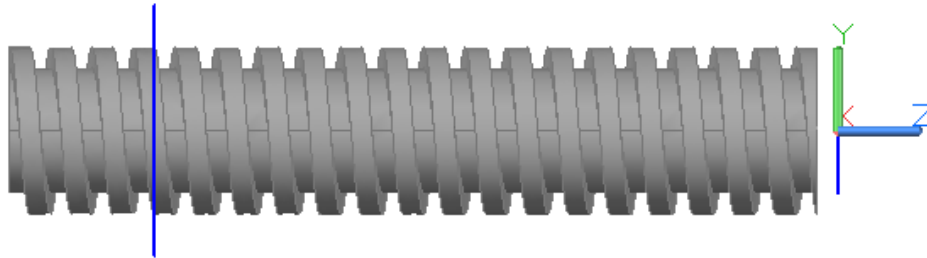

Figure Step 18A
Step 18 Move the circle 4 inches in the negative Z direction. Using what you learned in the last two steps, slice the solid and delete the portion you sliced off. Set the current view to SE Isometric. (Figure Step 18A, 18B, and 18C)